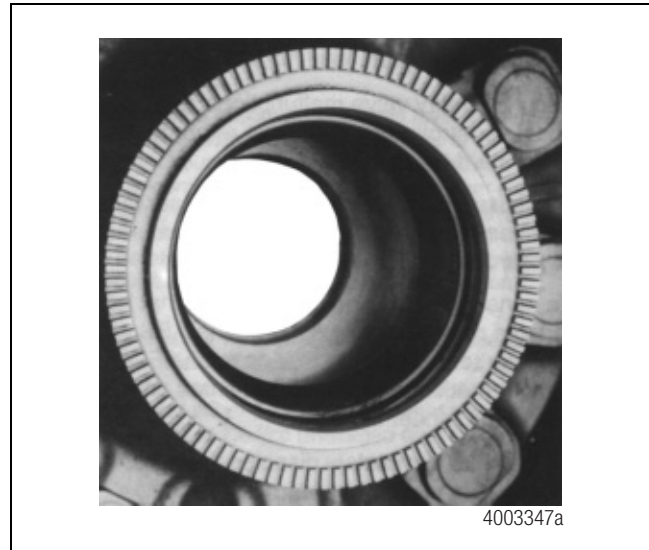

Figure 13.2
- Tooth Wheel — A 100 tooth wheel mounted to the hub or spoke wheel. Working with the sensor, it provides an AC voltage that represents wheel speed. Figure 13.2.